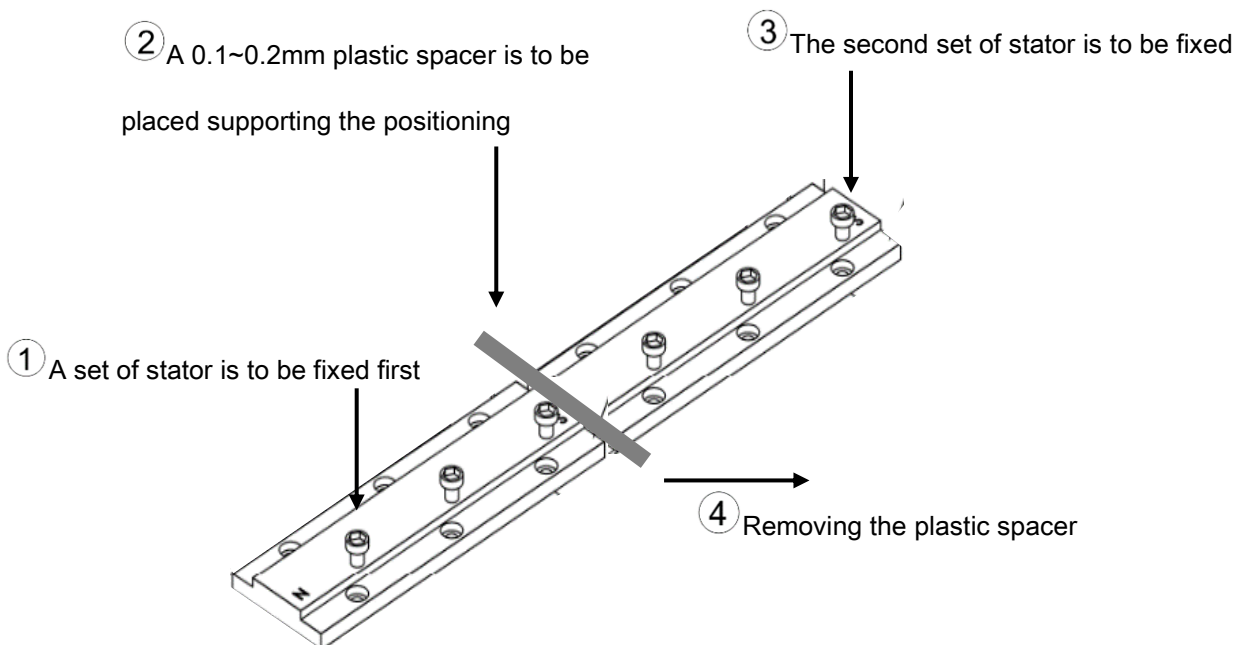

Fig. 12 Using a plastic spacer to support the positioning while assembling the multiple stators is advised.
4. Whenever the multiple stators are installed, the hole offset may occur due to the accumulated tolerance by the length of stators, which is a normal situation. As a result, a 0.1~0.2mm plastic spacer can be placed in between the two supporting stators to adjust the positioning of the screws (refer to Fig. 12). Screws are to be fixed after the positioning, and the plastic spacer can be removed after the screws are fixed.